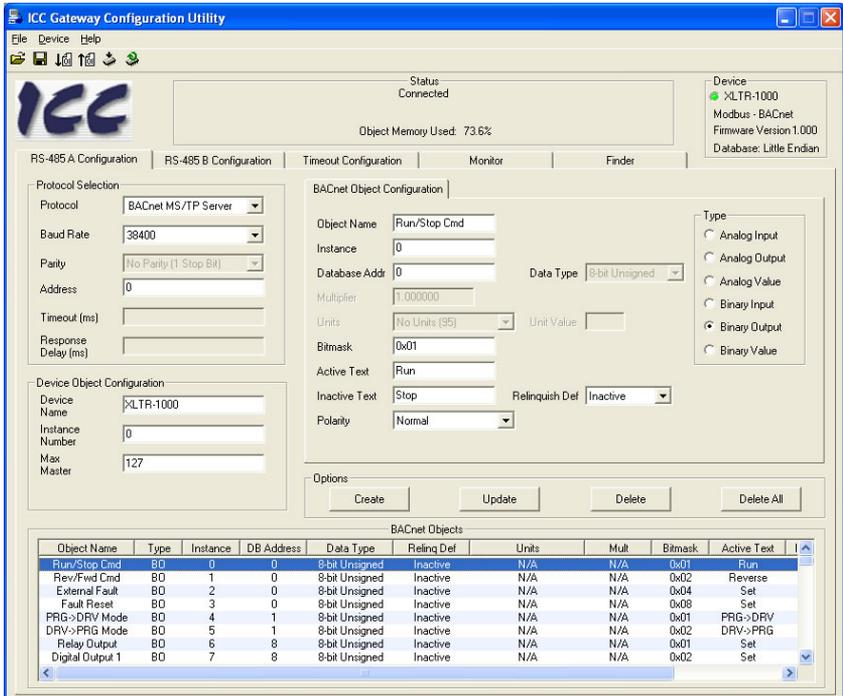

Figure 9: Configuration File Loaded
- The configuration file will be loaded, and the configuration elements will be visible in the “RS-485 A Configuration” and “RS-485 B Configuration” tabs (Figure 9). Remember that the interface card’s “RS-485 A” port communicates to the fieldbus network, and the “RS-485 B” port communicates to the drive.